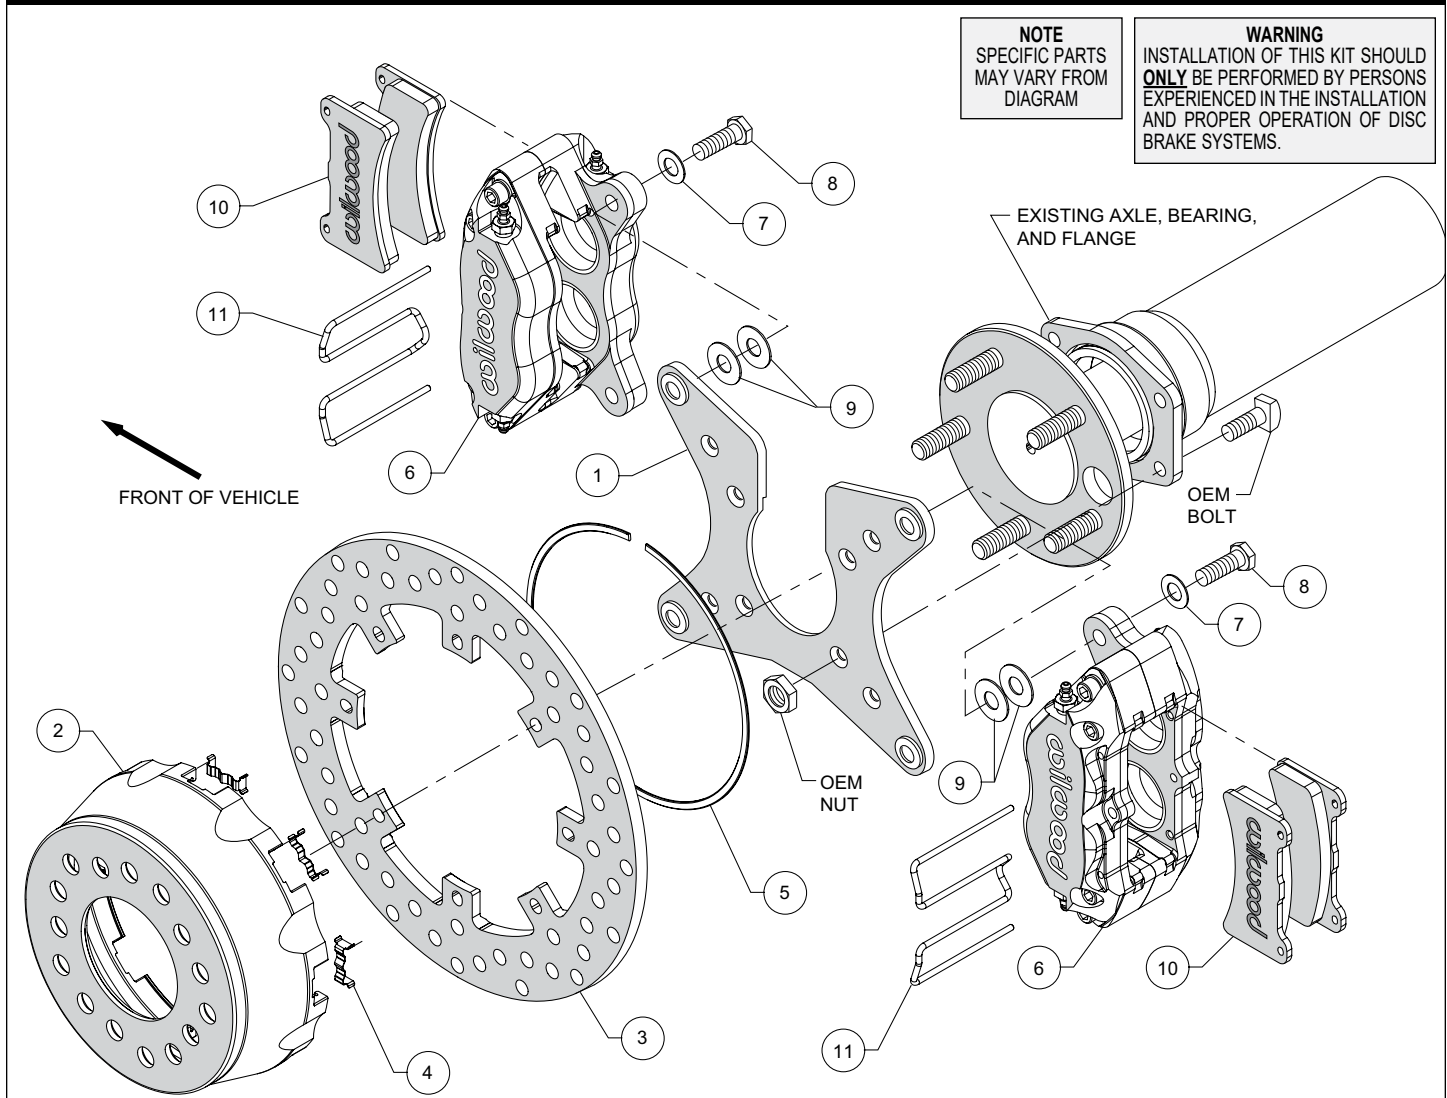
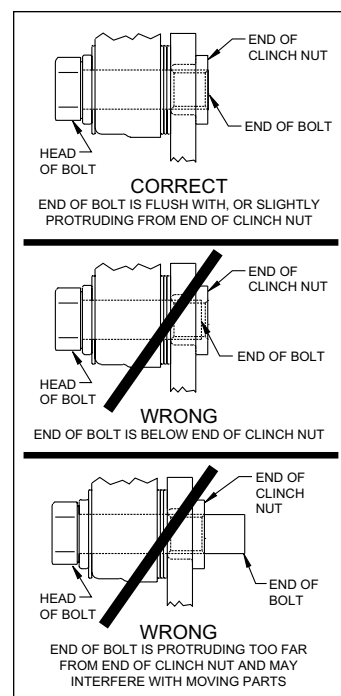

Figure 1. Typical Installation Configuration
Figure 5. Clinch Nut Engagement Diagram
Assembly Instructions (numbers in parenthesis refer to the parts list and Figure 1 on the preceding pages): **CAUTION:** All mounting bolts must fully engage clinch nuts. Be sure to check that all bolts are either flush or protruding through flanged side of clinch nut after shimming, Figure 5.
- Install the caliper mounting bracket (1), with the slot for the axle pointing upward, to the housing flange using the OEM bolts and nuts, as shown in Figure 1 and Photo 1. Ensure that the caliper mounting ears on the bracket are oriented fore and aft on the car, with the heads of the clinch nuts facing outboard, Photo 1. Apply red *Loctite*® 271 to the OEM bolt threads and torque to OEM specifications.
- Insert the dynamic mount wear plates (4) into the slots in the hat (2) making sure the tabs snap in place, Photo 2. Orient the rotor (3) as shown in Figure 1 and Photo 3, with the flush mount tab side facing the hat. Attach the rotor to the hat using snap ring (5) by pushing down on the rotor and installing the ring into the groove in the hat, as shown in Photo 4. Ensure that the ring is fully engaged in the groove.
- Align the correct hole pattern in the hat (2) with the axle stud pattern and slide the hat/rotor assembly onto the axle hub. **NOTE:** The hat must fit flush against the axle flange or excessive rotor run out may result. Install three lug nuts (finger tight) to keep the hat/rotor in place while continuing with the installation. **NOTE:** The hats included in this brake kit are drilled for .68" diameter wheel studs.
- NOTE:** Please reference the caution statement at the beginning of the assembly instructions. Mount one caliper (6) onto the mounting bracket (1) using bolts (8) and washers (7), as shown in Figure 1. Initially place two .035" thick shims (9) on each bolt between the caliper and the bracket, Photo 5. Temporarily tighten the mounting bolts and view the rotor (3) through the top opening of caliper. The rotor should be centered in the caliper, Photo 6. If not, adjust the caliper by adding or subtracting shims between the bracket and the caliper. Always use the same amount of shims on each of the two mounting bolts. **NOTE:** The end of each bolt must be flush with or slightly protruding from the head of the clinch nut. If necessary, place spare shims between washer and caliper mounting ear to achieve the proper clinch nut engagement, as shown in Figure 5.